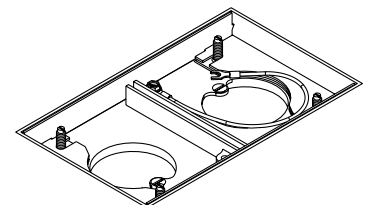

Figure 4
4. Place four adjusting screws in the slots in the adapter (see Figure 4).